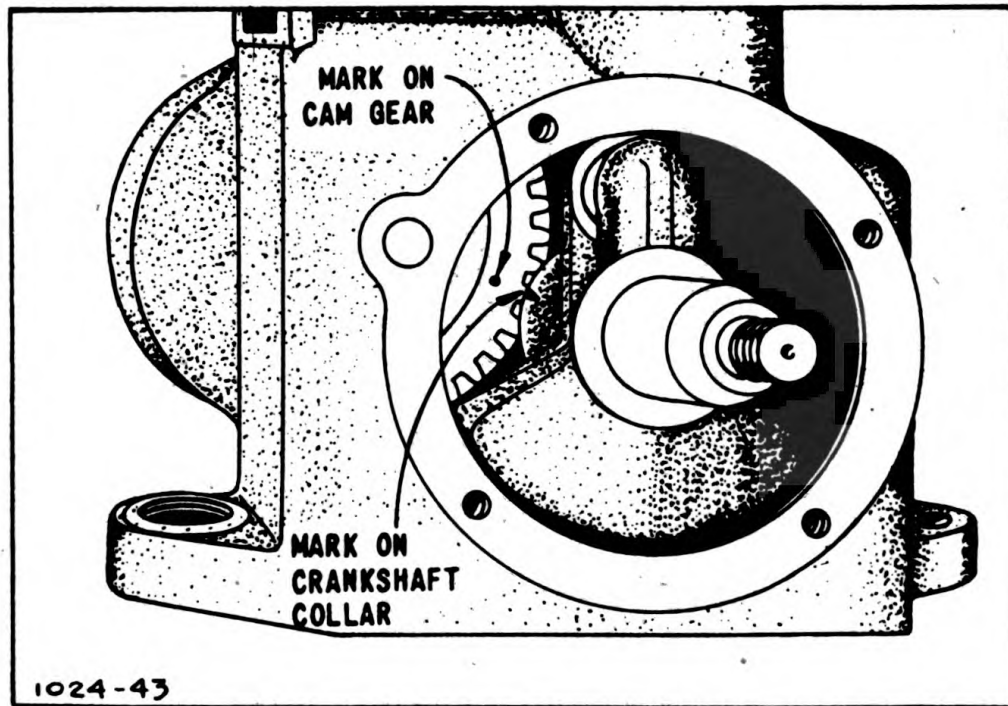

Figure 19.—Valve timing
d. The valves are timed by the meshing of the cam shaft gear with the gear on the crankshaft. These gears are properly meshed when the mark on the cam shaft gear is in line with the mark on the crankshaft collar (fig. 19).